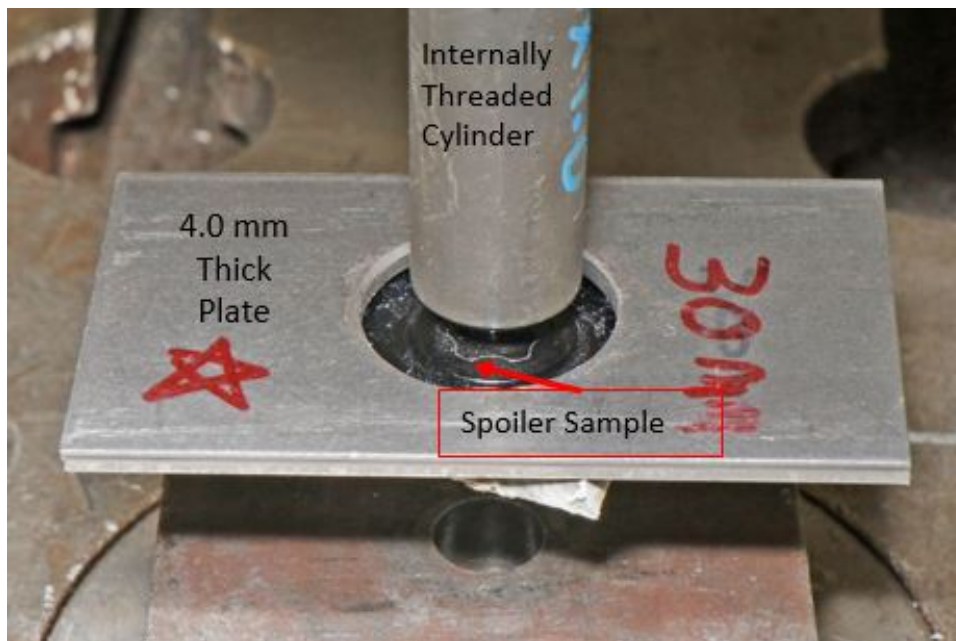

Figure 3: Spoiler Section Affixed to the Tensile Machine With Internally Threaded Cylinder and Metal Plate
4.3.1.1.1.3 Attach a M6 internally threaded cylinder or similar device onto the tensile testing equipment (this is for attaching the stud/spoiler coupon to the tensile equipment). See Figure 3.